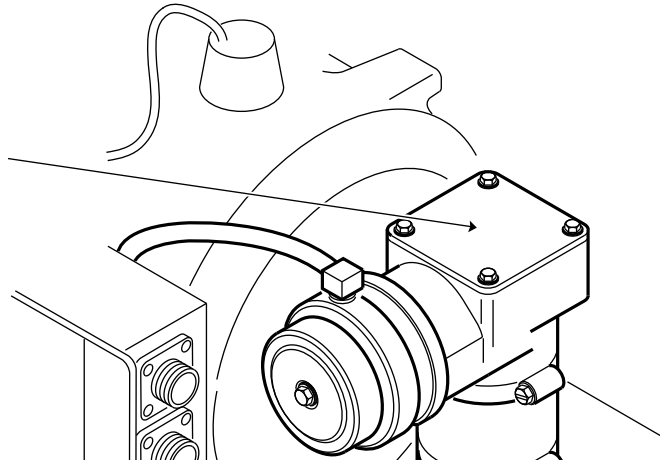

Figure 5-22 Compressor Access Cover
- c) Check for seized motor or fuel pump. (See Figure 5-5 and Figure 5-22)